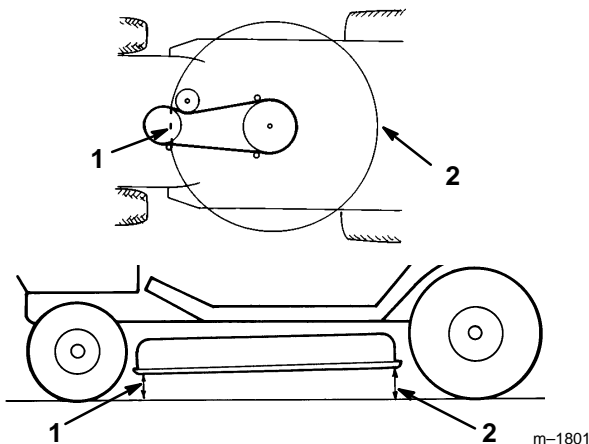

Figure 48
5. Check the front-to-rear blade slope by measuring between the bottom of the mower (front center and rear center) and the flat surface (Fig. 48). If the front of the mower is more than 5/8” (16 mm) lower than the rear of the mower, an adjustment is required; refer to steps 6–10.